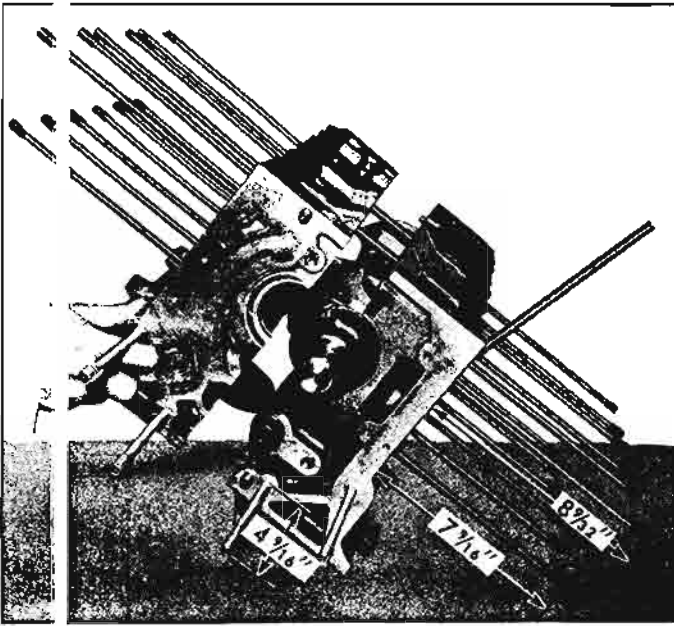

Fig 6A-80—Crankcase and Engine Rear Housing Stud Installed Length
1. To replace crankcase studs, install long cylinder studs to a projected length of $8\frac{1}{2}$ " (fig. 6A-80) and short cylinder studs to a projected length of $7\frac{1}{16}$ " using Tool J-8354-1 ($\frac{3}{8}$ -24) (fig. 6A-81). For
easy measuring of stud installed length, measure from Tool J-8354-1-2-3 shoulder as shown in Figure 6A-81.